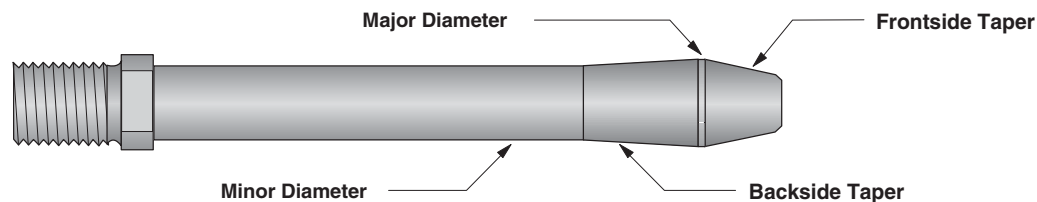

Figure 2-02 — Mandrel
- 2.6 Major Mandrel Diameter - The largest mandrel diameter which, in conjunction with the sleeve thickness, provides the proper amount of applied expansion to coldwork a hole. This dimension is critical to the process. Ref. Fig. 2-02.
- 2.7 Minor Mandrel Diameter - The mandrel dimension which, when combined with the split sleeve thickness, allows insertion into the start hole. Ref. Fig. 2-02.
- 2.8 Taper - Taper is the section of mandrel on either side of the major diameter which enhances the coldwork process. The taper on the frontside of the major diameter aides the installation of the split sleeve and insertion into the hole to be coldworked. The taper on the backside of the major diameter controls the pull-force required to coldwork the hole. Ref. Fig. 2-02.